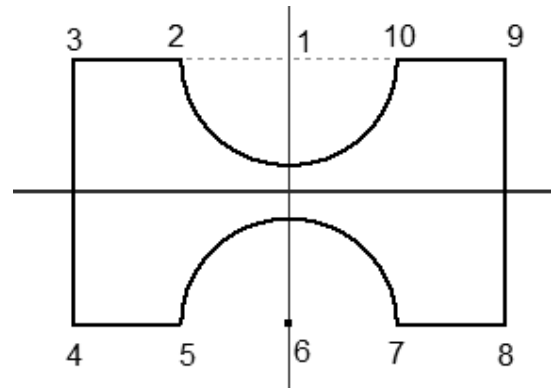

Figure 2-56 Sketch showing different points for Tutorial 3
7. Move the cursor toward the left in the graphics window. Enter **12** in the length input field, press the TAB key and then enter **180** in the angle input field in the Dynamic Input; the line between points 2 and 3 is created. Refer to Figure 2-56 for point numbers.
1. In Figure 2-56, the major and minor grid lines and the triad have not been displayed for a better display of the sketch and the imaginary lines.